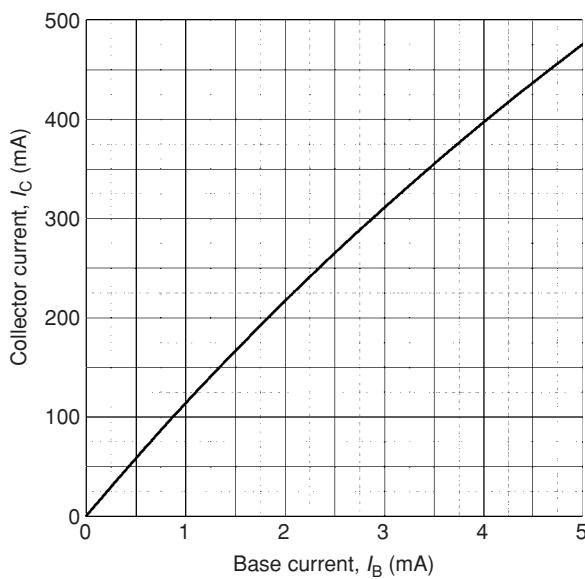

Figure 12.11
Figure 12.11 shows a typical **transfer characteristic** for an n-p-n bipolar junction transistor. Here  $I_C$  is plotted against  $I_B$  for a small-signal general-purpose transistor.
**Current gain (from the transfer characteristic, Fig. 12.11)**